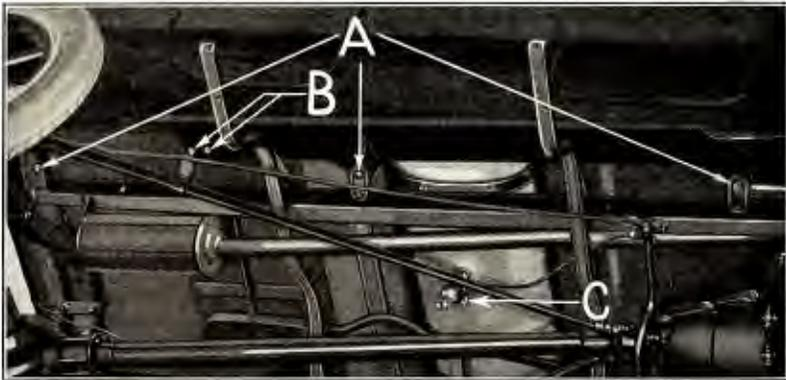

Fig. 12
- (a) Run off nuts on the six body bolts, (three on each side of car, See "A" Fig. 12). Run out the two wood screws "B", which hold each running board shield to body.
28 **Shut off gasoline** by closing the cock on sediment bulb underneath gasoline tank (See "C" Fig. 12).